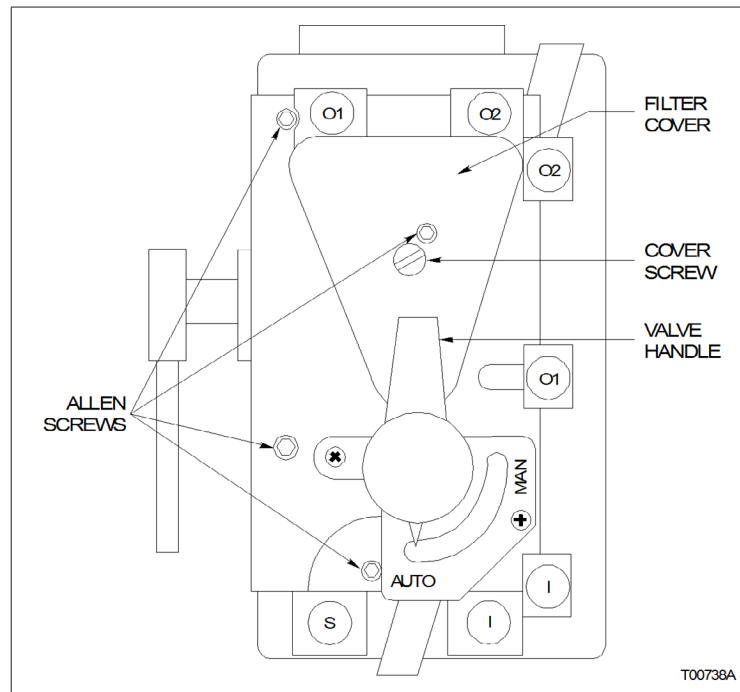

Figure 8-1. Positioner with Manifold
2. If equipped with an equalizing valve, push in on the valve handle and move it to the MAN position (Fig. 8-1).
3. Remove the four Allen screws that secure the manifold (Fig. 8-1).